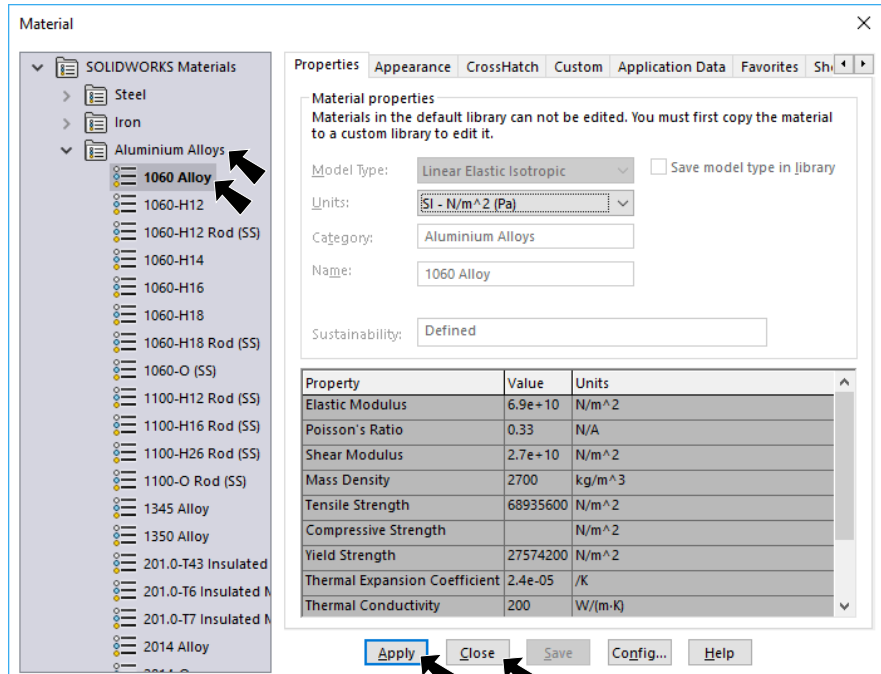

Fig. 12
Step 2. Expand **Aluminum Alloys** in the material tree and select **1060 Alloy**, Fig. 12. Click **Apply** and **Close**.